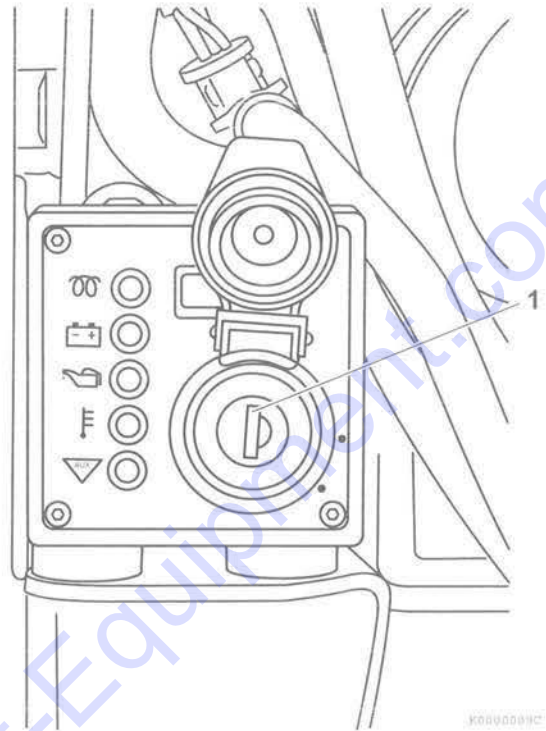
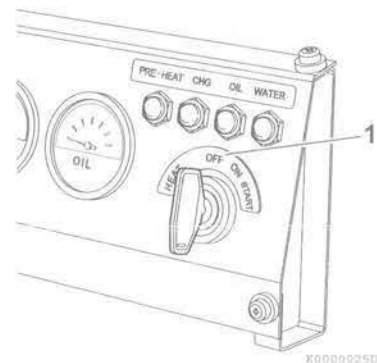

Figure 7
Figure 8
4. Turn the key to the OFF position (1, **Figure 7**) or (1, **Figure 8**) and remove it from the key switch.